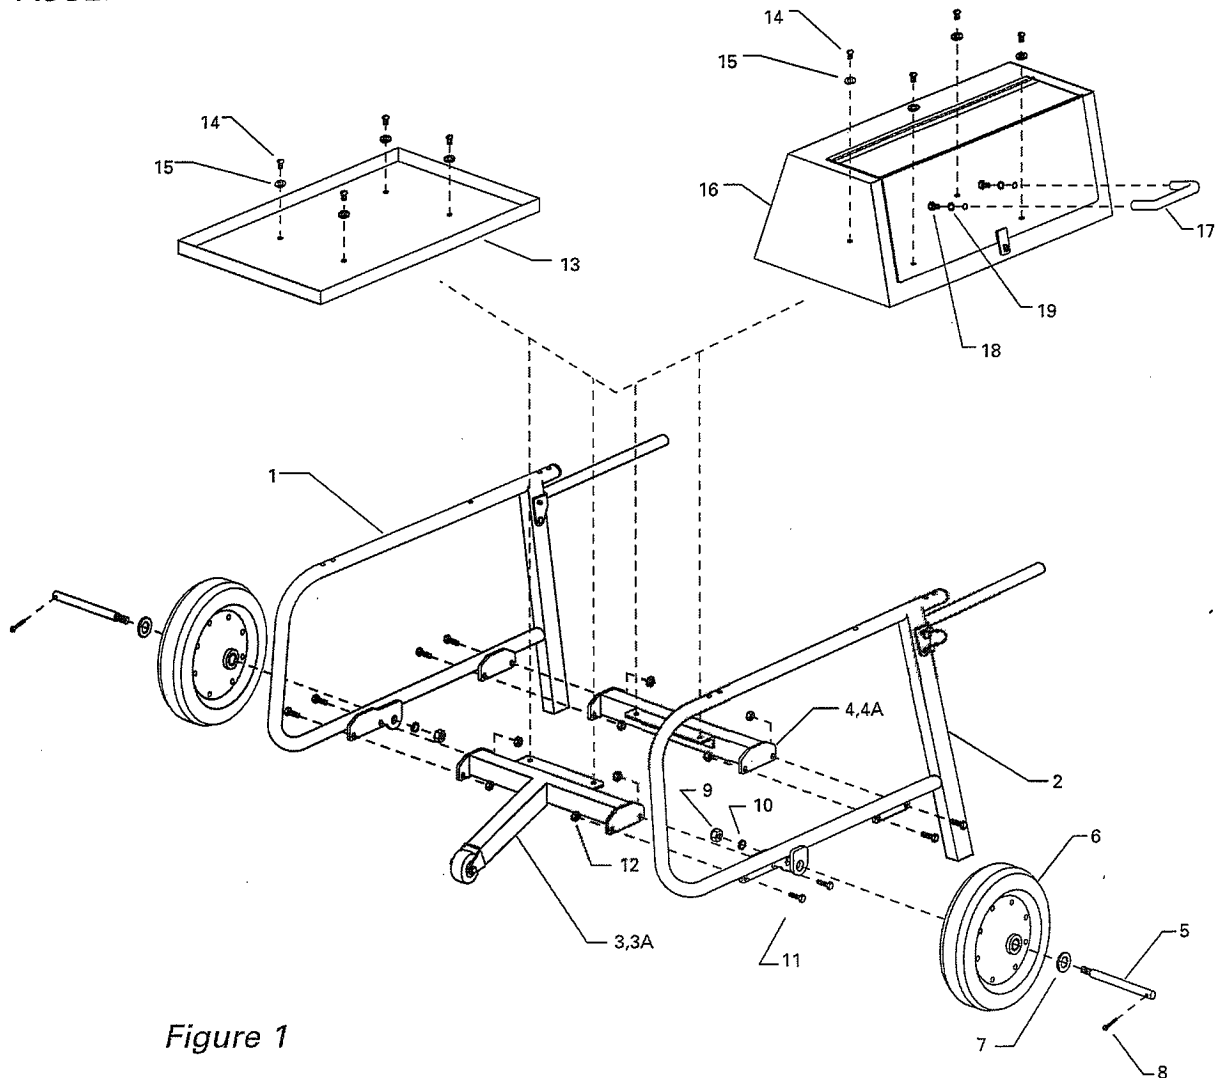

Figure 1
1. Attach front and rear crossmembers (3/3A, 4/4A) to side frames (1,2) with $3/8"$ -16 x 1" hex head cap screws and $3/8"$ -16 hex nuts (11,12) as shown in Figure 1. Be sure crossmembers are assembled as shown in Figure 1.
2. Install 2 - axles (5) and secure with $1/2"$ -13 hex nuts and $1/2"$ lock washers (9, 10). Place wheels onto axles, place 1 washer (7) on each axle (5) and secure with cotter pins (8).
3. Depending on the unit you have ordered, mount either the tray (13) or the storage box (16) with the $1/4"$ -20 x $1/2"$ slotted round head machine screws and $1/4"$ flat washers (14, 15). Attach the handle of the storage box (17) with M8 x 12 hex head screws and M8 lock washers (18, 19).